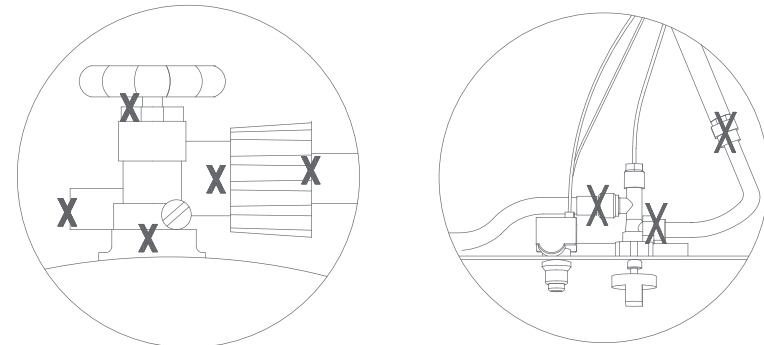

Figure 1
2. Make sure control knobs are in the "O" position (Figure 1).